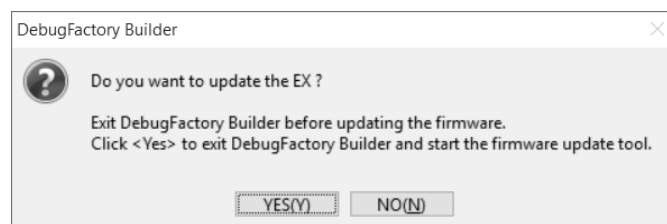

Figure 1.5.2 Firmware Update Start Check
1. The dialog shown in Figure 1.5.2 appears. Click <Yes>.